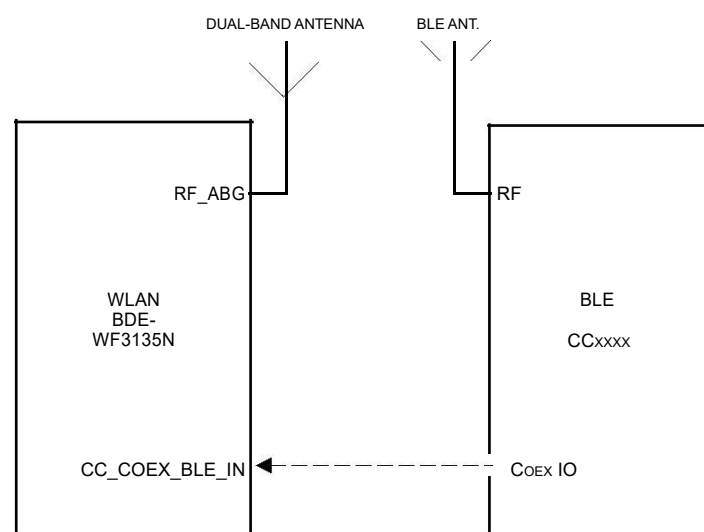

Figure 16. Dual-Antenna Coexistence Mode Block Diagram
- Dual-band Wi-Fi (see Figure 16)
Figure 16 shows the dual antenna implementation of a complete Bluetooth[®] low energy and WLAN coexistence network with the WLAN operating on either a 2.4- or a 5 GHz band. Note in this implementation no Coex switch is required and only a single GPIO from the BLE device to the BDE-WF3135N device is required.